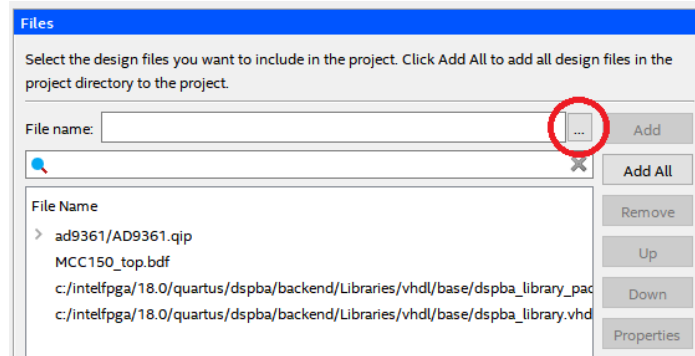

Figure 12: Add/Remove Files in Project dialog.
- Select **Project** → **Add/Remove Files in Project** and click the button marked ..., circled in red in Fig. 12. Navigate to the **rtl/MCC150** folder and select the the **MCC150.TransmitterBPSK.qip** file, which contains pointers to all your generated VHDL-files. Press the **Open** button to import the files and press **OK** in the next dialog.